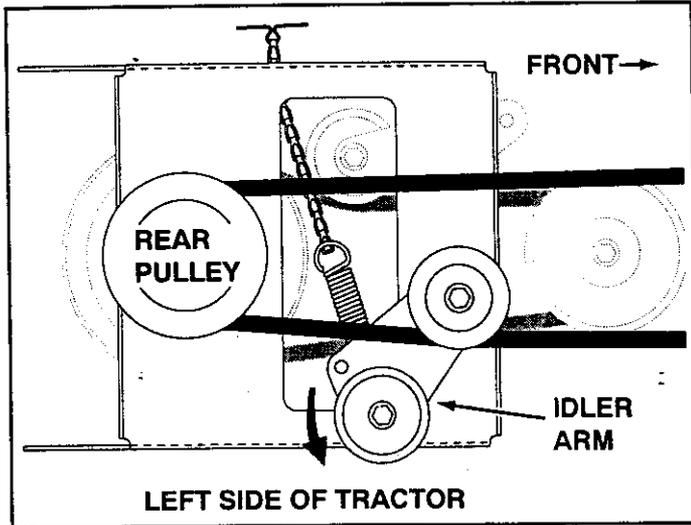

FIGURE 23 VIEWED FROM UNDERNEATH
- Beneath the tractor, the idler arm on the bottom of the clutch/idler assembly should be pivoted to the left side of the tractor as shown in figure 23.
- Place the auger belt around the rear pulley and between the two idler pulleys with the "V" side of the belt seated in the grooves of the "V" pulleys. See figure 23.